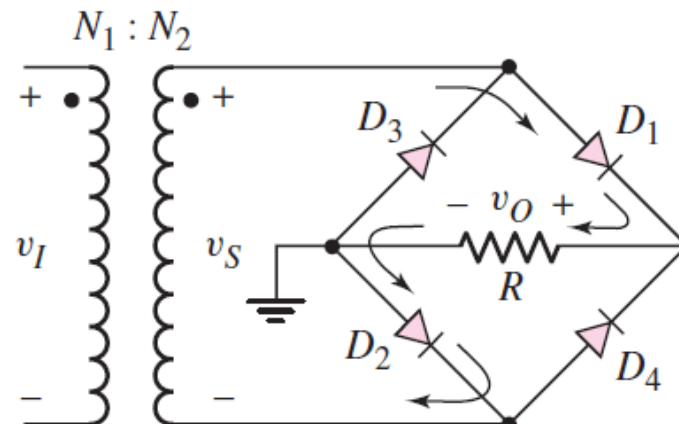

Figure 2.6(a)
- Another example of a full-wave rectifier circuit **appears** in Figure 2.6(a).